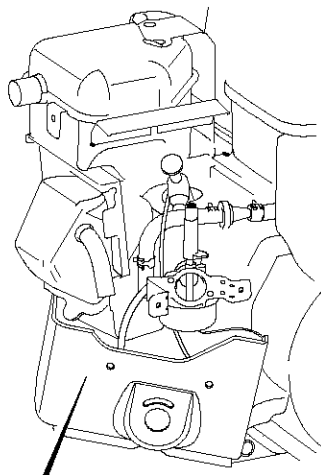

Figure 33
4. Slowly remove the snow hood (see Figure 33). Make sure that the primer button hose and the ignition wire are not disconnected.